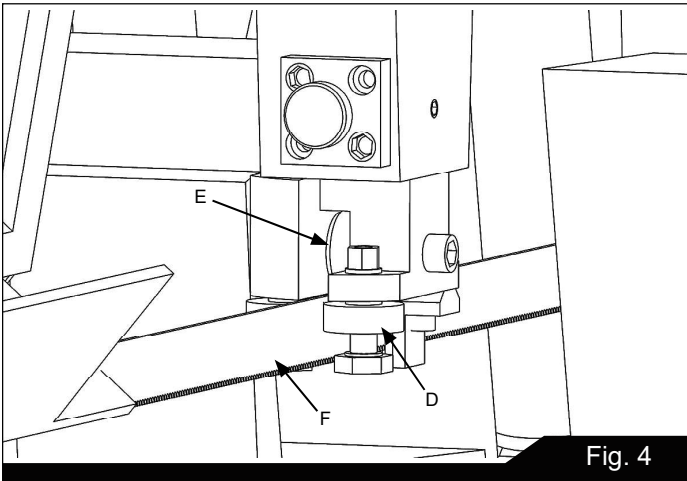

Fig. 4
8. Work the blade (F) all the way up into the blade guide roller bearings (D) with the back of the blade against the back-up bearing (E), as shown in Fig. 4.